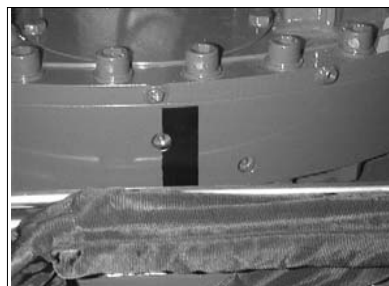

fig. 53b
- fig. 53b-53c show the lubricators of the slew (placed symmetrically on the same);